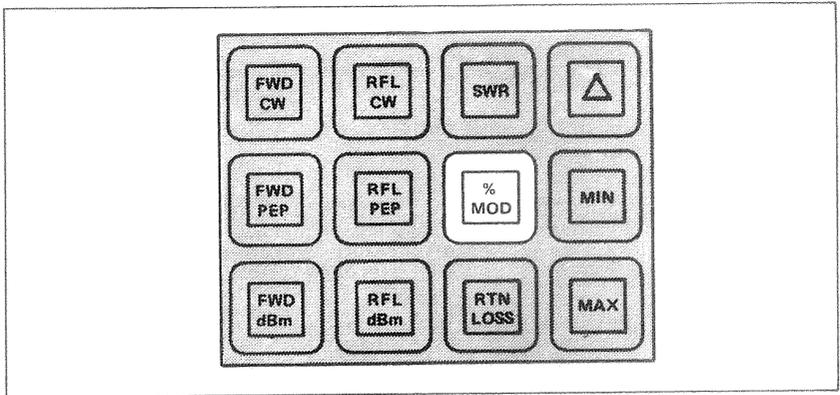

Figure 3-5. Amplitude Modulation (%).
e. Measuring Amplitude Modulation. (Figure 3-5.) Only a forward element is required for this mode. The element should be pointed in the direction of forward power and the **% MOD** key pressed. Modulation is displayed directly in percent, provided the average signal is above 10% and the PIP of the signal is below 400% of the element's nominal full scale. For specified measurement accuracy, the average CW power levels must be greater than one third of full scale. Modulation is calculated as follows: